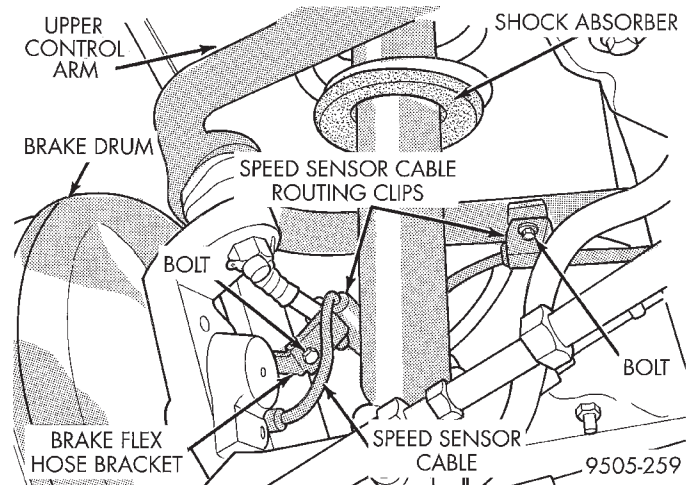
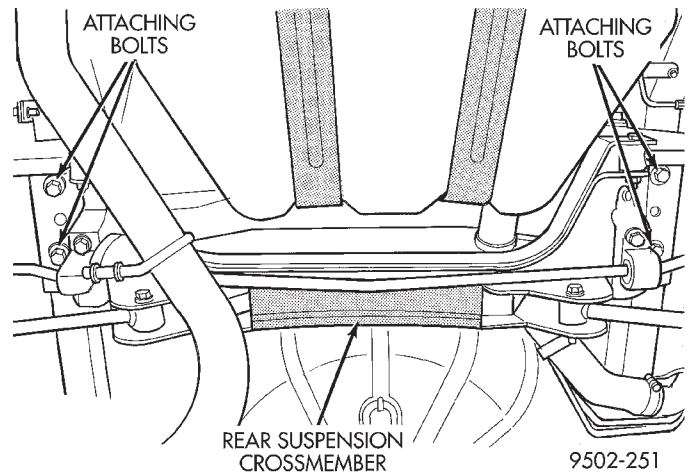

Fig. 38 Speed Sensor Cable Attachment To Control Arm
Fig. 39 Suspension Crossmember Attachment To Frame Rails
(7) Remove the routing clips for the wheel speed sensor cable from the brackets on the upper control arm (Fig. 38).
(8) Remove the nuts and bolts on each side of the vehicle attaching the 4 lateral links to the knuckles.
(9) Remove the 4 bolts attaching the rear suspension crossmember to the rear frame rails (Fig. 39).
(9) Install the wheel speed sensor cable routing clip on the upper control arm mounting bracket (Fig. 38). Install and securely tighten attaching bolt.
(10) Install wheel and tire assembly on vehicle. Tighten the wheel mounting stud nuts in proper sequence until all nuts are torqued to half specifica-